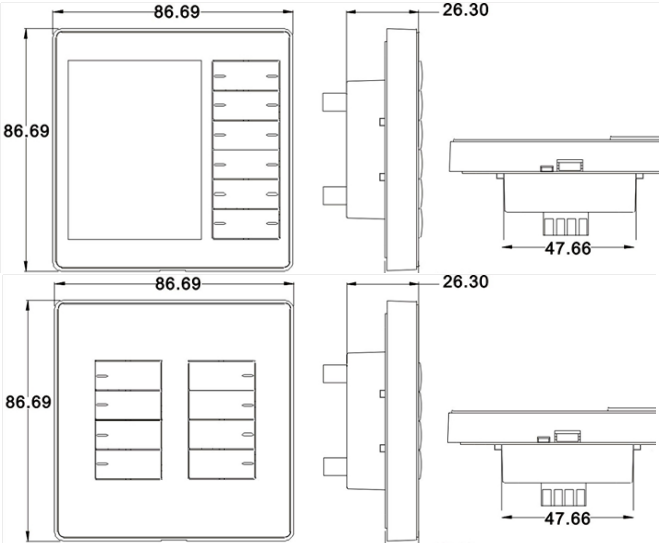

Figure 1.1.11: Smart Home Keypads
- Smart home keypads, shown in Figure 1.1.11, are programmable keypads that consist of 4 to 8 buttons or an LCD with 12 buttons where each button can be used for a single or multiple actions (scenes).